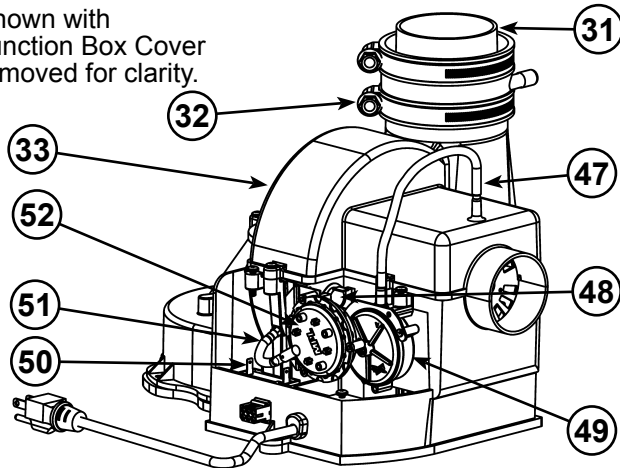

Figure 4
| 8 Cold-Water Inlet Nipple/Diptube | 25 *Gas Supply* | 47 Air Tubing (Intake) (see Figure 4) |
| 9 **Combo Heating System Supply Outlet (Optional) | 26 Anode (under cap) | 48 Blower High Limit Switch (see Figure 4) |
| 10 T&P Valve | 27 Baffle Assembly | 49 Intake Air Pressure Switch (NC) (inside box) (see Figure 4) |
| 11 * Discharge Pipe | 28 Hot-Water Outlet Nipple/Anode | 50 Capacitor (see Figure 4) |
| 12 **Combo Heating System Return Inlet (Optional) | 29 Sound Suppressor (Tee fitting) | 51 Air Tubing (Exhaust) (see Figure 4) |
| 13 Gas Control Valve/Thermostat (Honeywell) | 30 *Inlet Water Shut-off Valve | 52 Exhaust Air Pressure Switch (NO) (inside box) (see Figure 4) |
| 14 Gas Valve Electronic Control Module And Cover (Honeywell) | 31 ****Rubber Coupling (see Figure 4) | * , ** , *** , **** see notes on following page |
| 15 Drain Valve | 32 Gear Clamp (see Figure 4) | |
| 16 Outer Gas Door | 33 ***Blower with Power Cord (see Figure 4) | |
This device is located on the blower (see Figure 4, item 48) and limits the maximum temperature of the blower. If the blower temperature rises above the temperature setting, the switch opens causing the heater to shut down. The switch will auto reset once the temperature drops sufficiently.
The blower/heater is equipped with two air pressure switches located in the junction box (see Figure 4, item 49 and item 52). These devices are connected in series and monitor the air pressure produced by the blower. In the event that the exhaust venting becomes blocked or sufficiently restricted, the normally open (NO) air pressure switch will shut down the heater. In the event that the intake pipe becomes sufficiently blocked or restricted, the normally closed (NC) air pressure switch will shut down the heater.